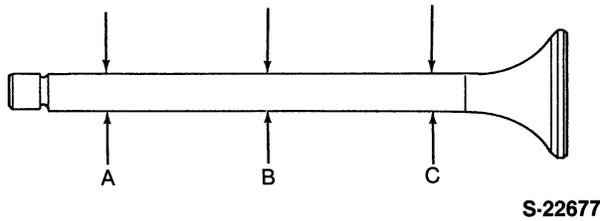

Figure 21
2. Using a micrometer, measure the valve stem at points "A," "B" and "C," Figure 21.